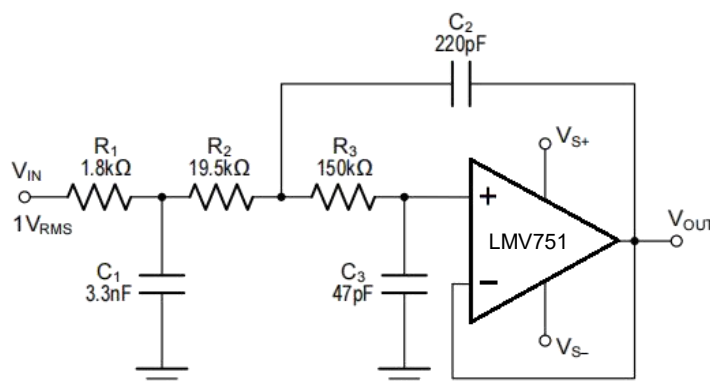

Figure 6. Configured as a Three-Pole, 20-kHz, Sallen-Key Filter
- using a non-inverting filter topology, such as the Sallen-Key (shown in Figure 6).